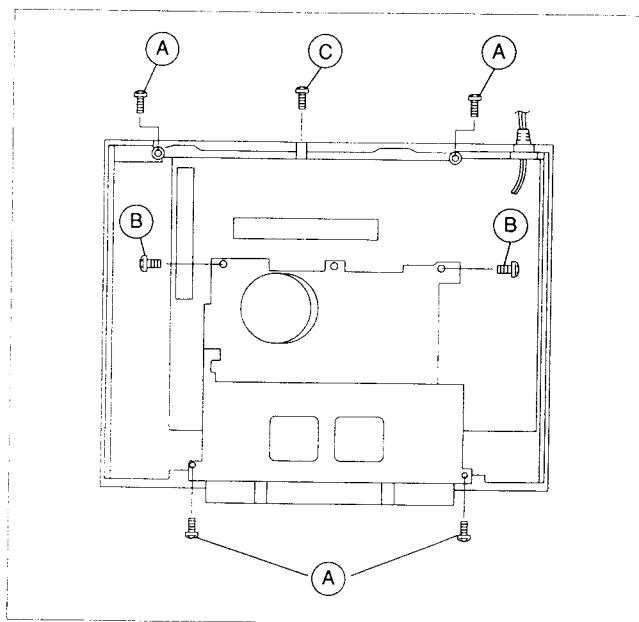

Fig. 1-5-1
- (1) Remove the Top cover, Front panel assembly, and CN1201 and SW/DISPLAY board assembly.
- (2) Take out 4 screws (A), 2 screws (B) and 1 screw (C) as shown in Fig. 1-5-1.